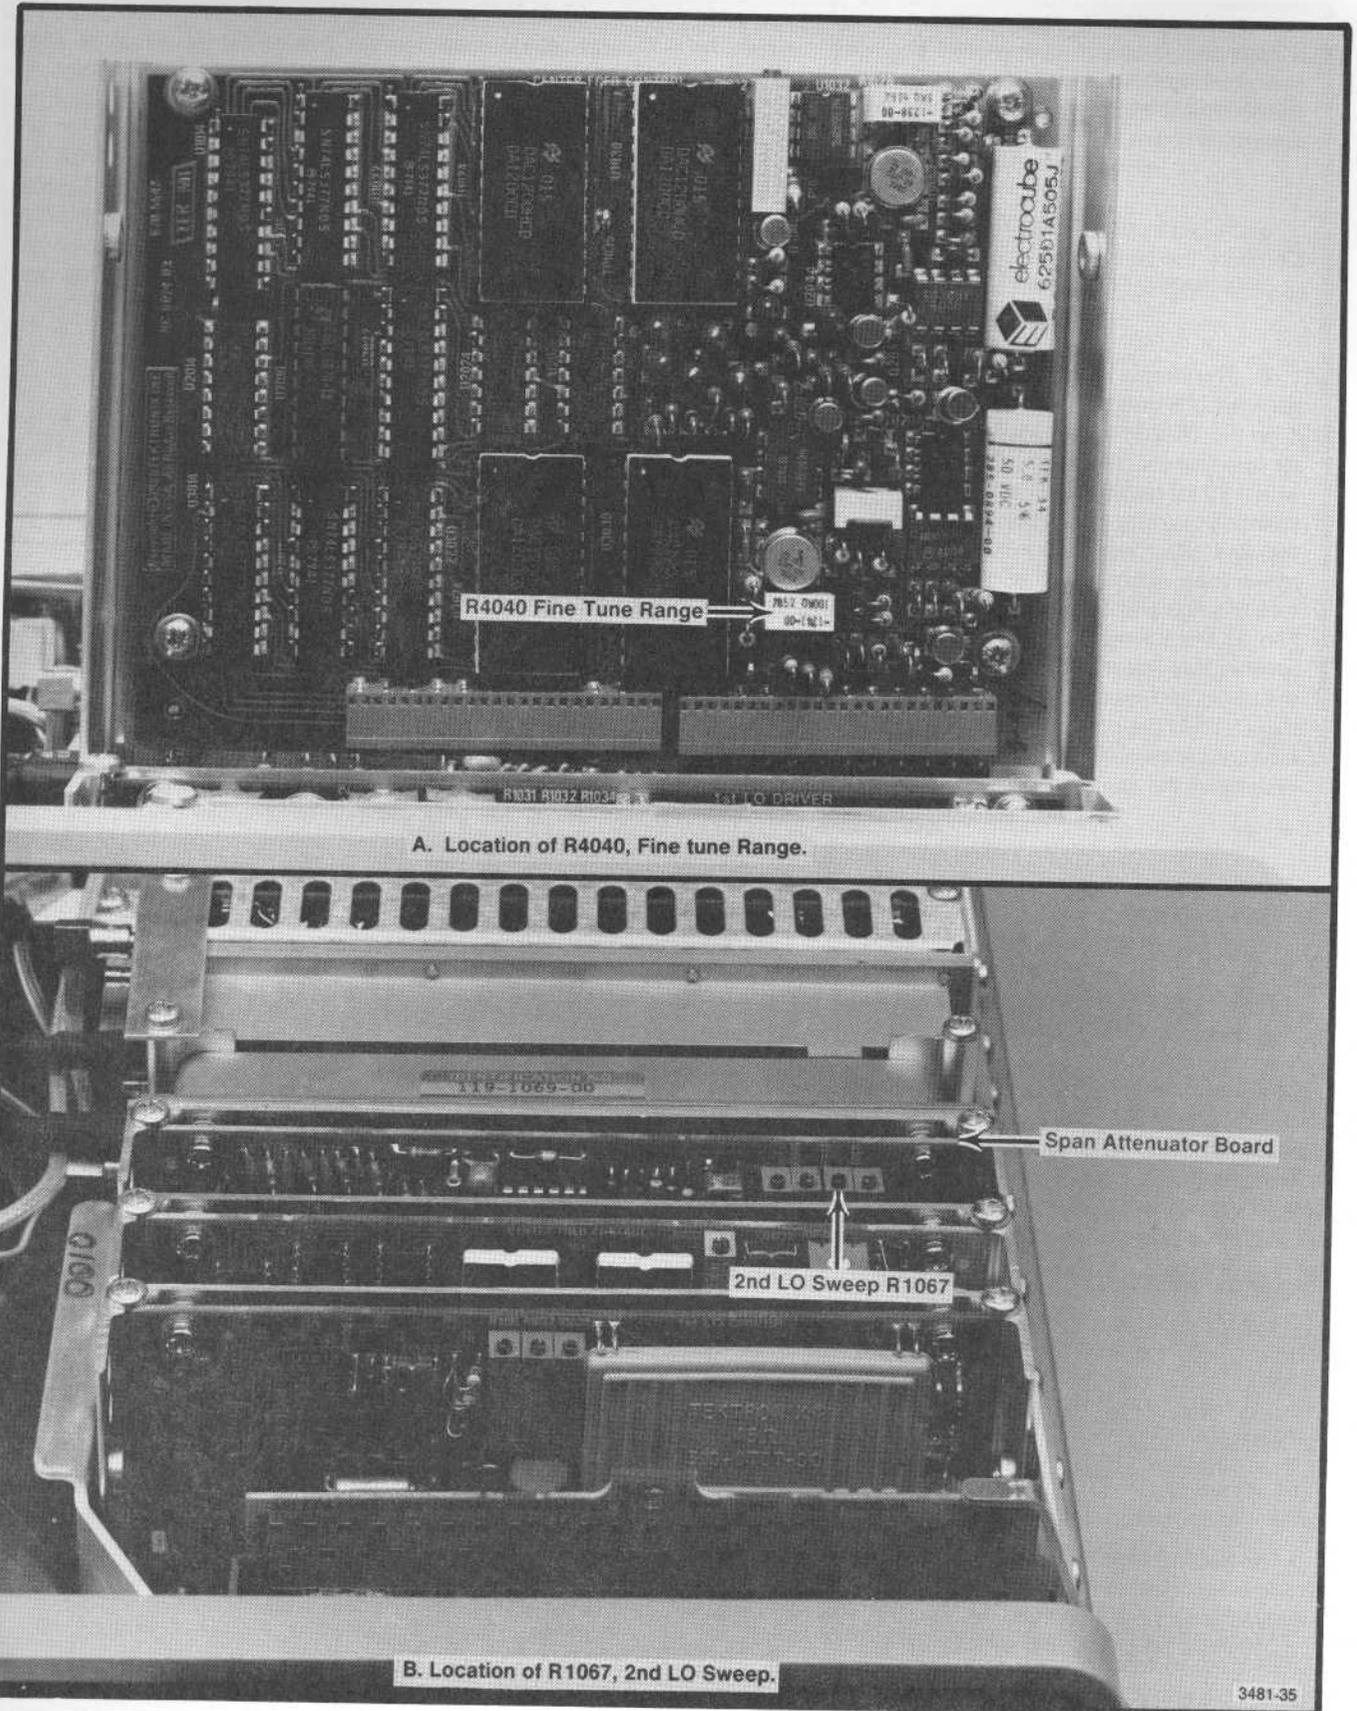

Fig. 4-17. Location of the fine tune range pot (R4040) on the center frequency control board and the sweep gain pot (R1067) on the span attenuator board.
a. Center the Fine Tune Range adjustment (R4040) on the Center Frequency Control board and the 2nd LO Sweep adjustment (R1067) on the Span Attenuator board. Refer to Fig. 4-17 for these locations.
Range adjustment (R4040) on the Center Frequency Control board (Fig. 4-17) so that tuning the 496/496P over a 3 MHz range produces a  $\Delta$  Frequency display of 3 MHz,  $\pm 20$  kHz. Several successive tunings over this range will be necessary to reach the correct setting on the Fine Tune Range adjustment.
h. Set the FREQ SPAN/DIV to 100 kHz/Div, then back to 50 kHz/Div. This recenters the 2nd LO's tuning range. Tune the 496/496P to place a comb line on the center of the screen. Adjust the 2nd LO Sweep adjustment (R1067) on the Span Attenuator board (Fig. 4-17) so that the comb lines on opposite sides of the screen are exactly 8 major divisions apart.